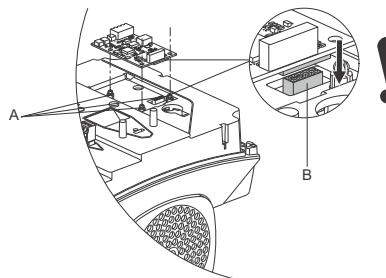

Fig. 74 Fitting the CIM module
4. Fit the CIM module by aligning it with the three plastic holders (fig. 74, A) and the connecting plug (fig. 74, B). Press home the module using your fingers.